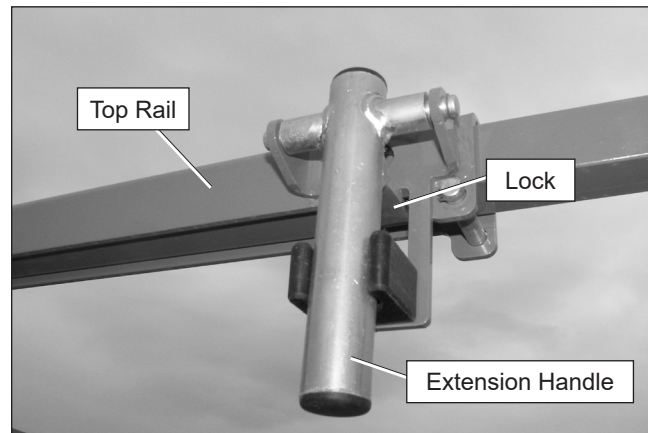

Figure 8.20 – Platform Extension Handle
1. Inspect the extension handles and locks (refer to Figure 8.20) on each side of the platform to ensure they release to extend the platform.
2. While facing the front of the platform, grasp the platform extension handles, raise them and push the extension deck forward to extend the deck. Fully lower the handles at the mid or front position and ensure they are locked in their lowered position (refer to Figure 8.20).
6. While facing the front of the platform, grasp the platform extension handles, raise them and pull the extension deck backward to retract the deck. Fully lower the handles at the stowed position and ensure they are locked in the lowered position (refer to Figure 8.20).